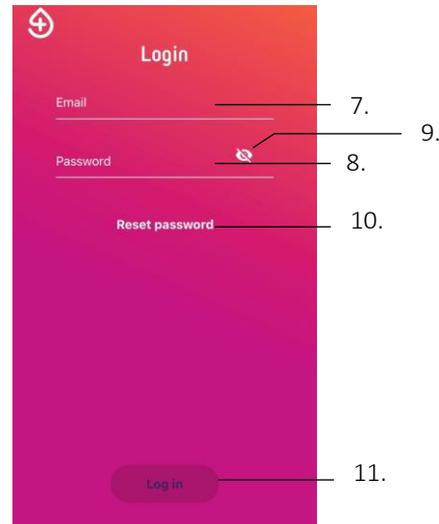

Figure 7. Login interface
6. Log out	Logs out of your account from the Courier App and leads to the login interface (See Figure 7).